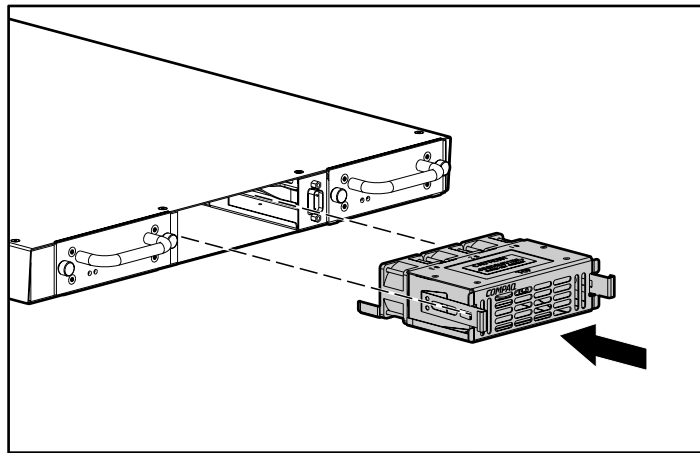

Figure 115: Installing a fan module
3. Insert the new fan module into the fan bay, using the orientation shown in Figure 115, Installing a Fan Module. Push the module into position until the fan latches lock into place.